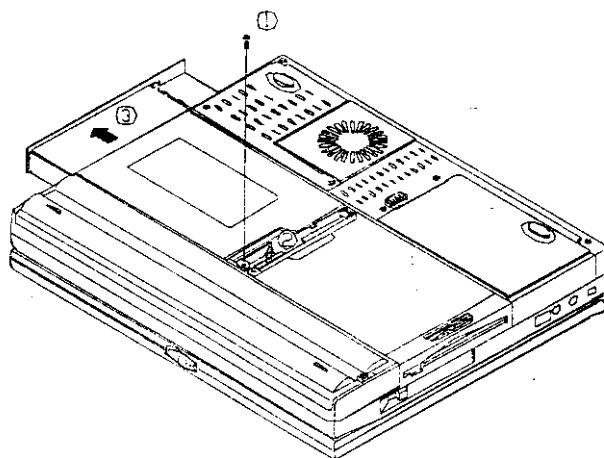

Figure 2-16
6. Push the latch in the indicated direction and pull the CD-ROM module out of the tray (Figure 2-16).